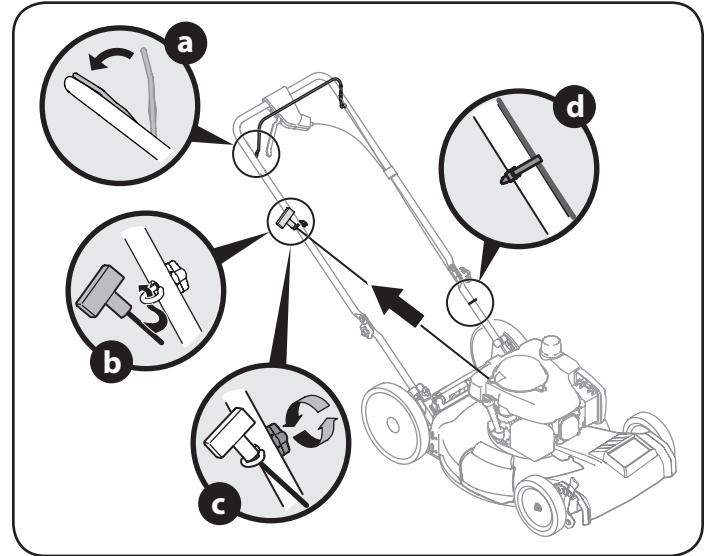

Figure 6
- Slowly pull starter rope handle from engine and slip starter rope into the rope guide. See Figure 6.
- Use cable ties provided to secure blade control and drive cables to lower handle as shown in Figure 6.
4. The rope guide is attached to the right side of the upper handle. Loosen the wing knob which secures the rope guide. Refer to Figure 6.